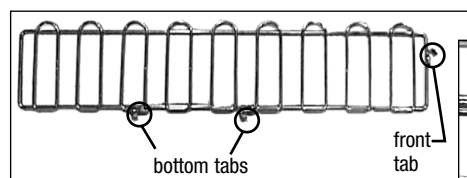

figure 6
Step 1) To assemble the dividers, locate the two bottom tabs, as shown in *figure 6*. Place divider on shelf with front tab of divider pointing toward the front upturn of shelf.